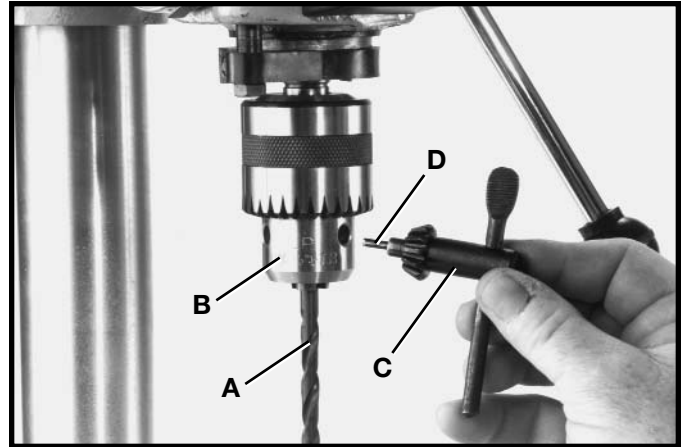

Fig. 30
1. Insert smooth end of drill bit (A) Fig. 30, as far as it will go into the chuck (B), or up to the flutes for small bits.
2. Make certain that the drill bit (A) Fig. 30, is centered in the chuck (B) before tightening the chuck with the key (C).
3. Turn the chuck key (C) Fig. 30, clockwise to tighten and counterclockwise to loosen the chuck jaws.
5. **MAKE SURE** chuck key (C) Fig. 30, is removed from chuck before starting drill press. Your chuck key (C) is equipped with a self-ejecting pin (D) which eliminates the hazard of the key being left in the chuck.